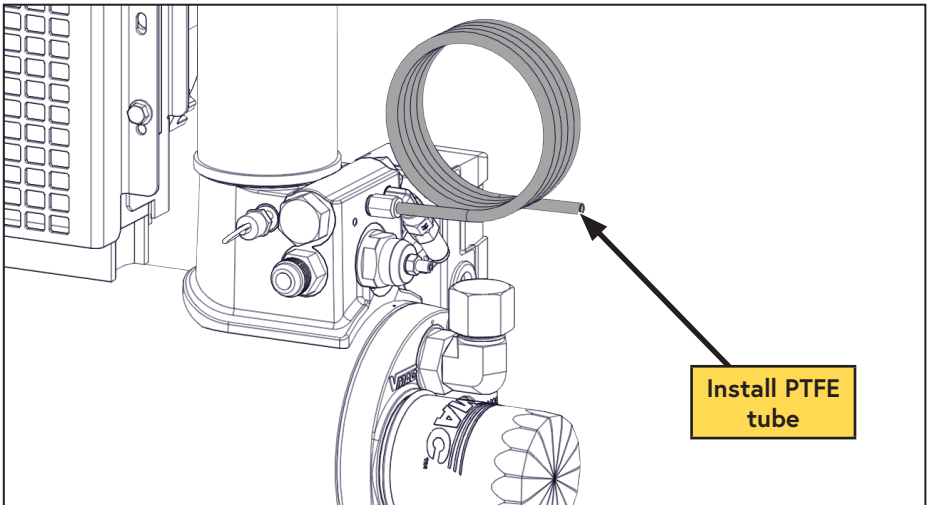

Figure 30 — Tubing Installation
- Connect the 1/4 in PTFE tube into the push-to-connect fitting installed in the WHASP Tank (Figure 30).